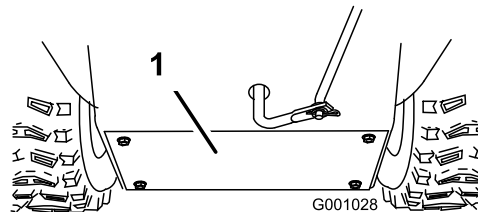

Figure 47
3. Remove the back cover (Figure 47).